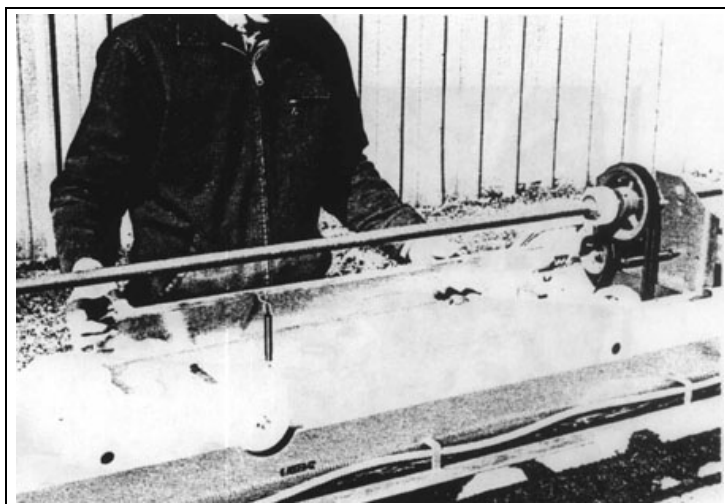

Figure 4X
22. Installation of gearbox connecting shaft shields using two (2) shields for 4 auger unit and three (3) shields for 6 auger unit. Simply place shield in position as shown in Figure 4X. Firmly place notched end of shield between gearbox mounting brackets and complete installation by hooking spring to the bottom side of the trolley frame. (See Figure 4X and Page 40.)